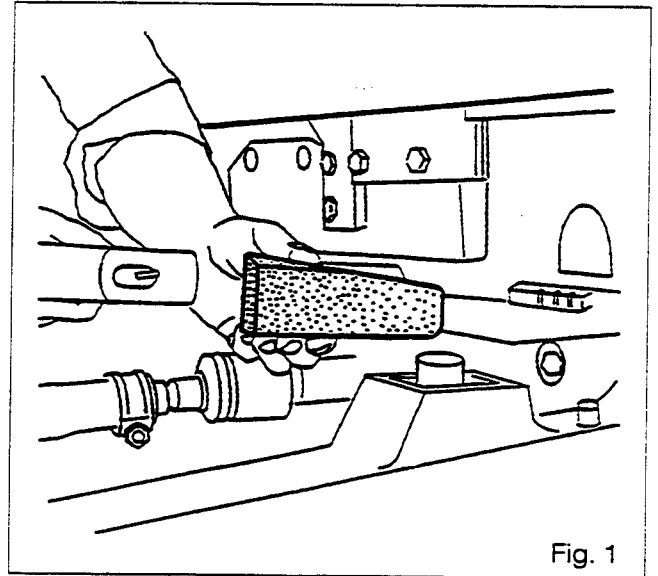

Fig. 1
- between the engine frame and the front axle (Fig. 1).